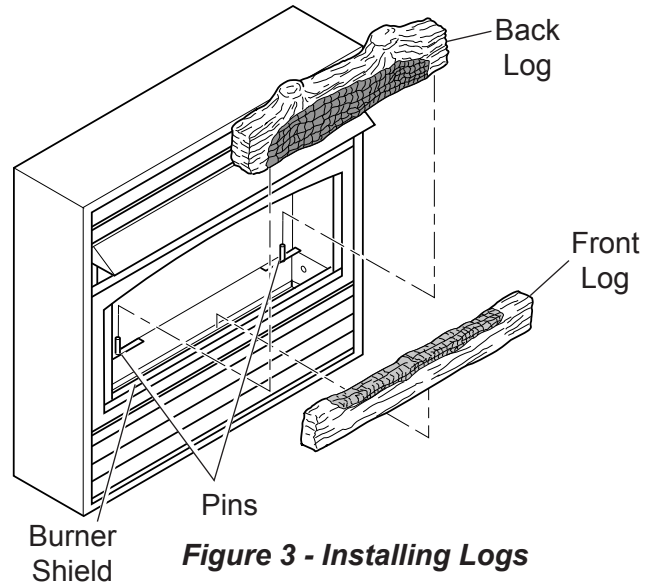

Figure 3 - Installing Logs
3. Gently slide log on log retaining pin on base assembly (see Figure 3). The log should fit firmly against bottom of log retaining pin.